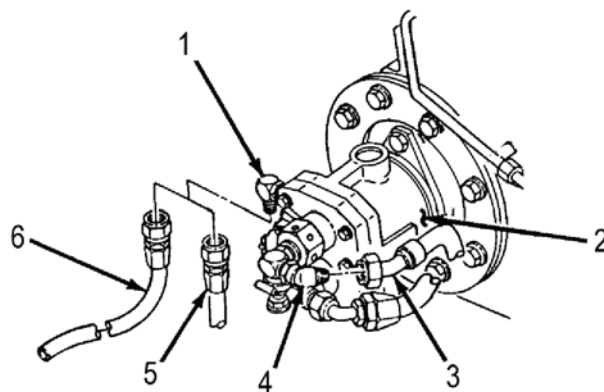

Figure 6. Compensating Pump
- Disconnect SPNSN PUMP-9 hose (Figure 6, item 3) from elbow (Figure 6, item 4) on compensating pump (Figure 6, item 2). Cap elbow (Figure 6, item 4) and plug hose (Figure 6, item 3).
- Disconnect SPNSN PUMP DRAIN-7V hose (Figure 6, item 5) from elbow (Figure 6, item 1). Plug hose (Figure 6, item 5). Connect drain hose (Figure 6, item 6) to elbow (Figure 6, item 1).
- Hold end of drain hose (Figure 6, item 6) in graduated container.